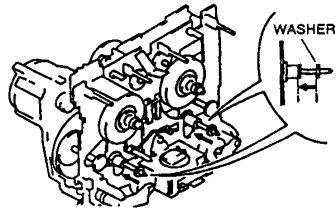

Fig. 16
- Press down the washer onto the capstan shaft. Clean the capstan shaft with alcohol (fig. 16).